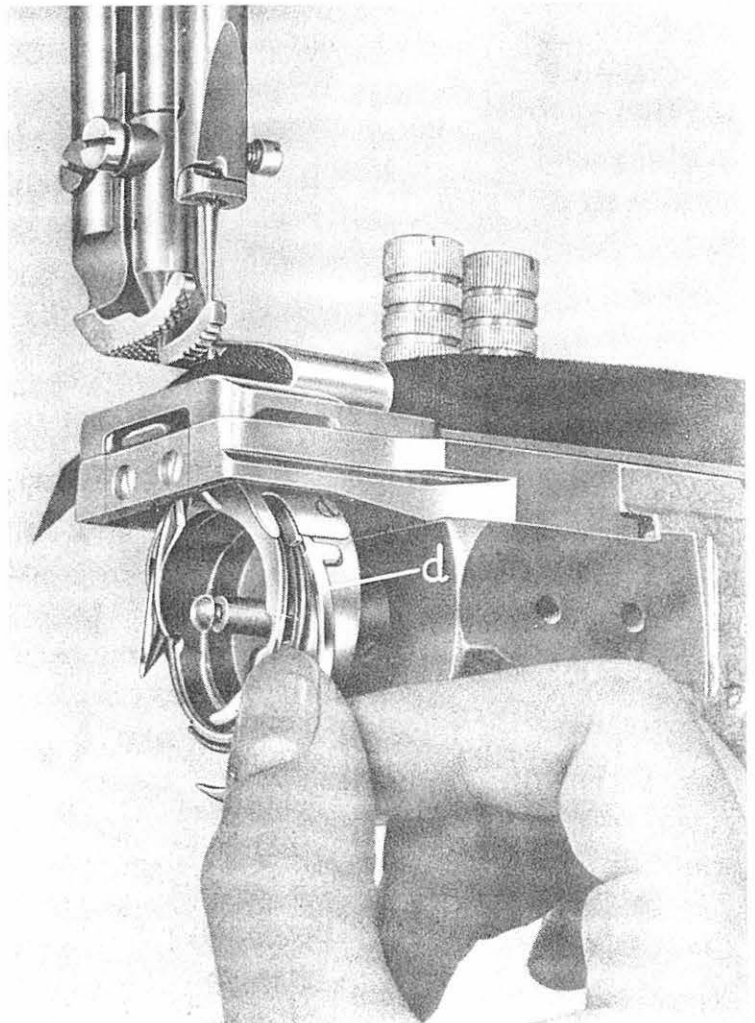

Fig. 17
9. Slide the rear end of hook gib *d* into the small groove, as shown in Fig. 17, and insert and tighten screw *e*.